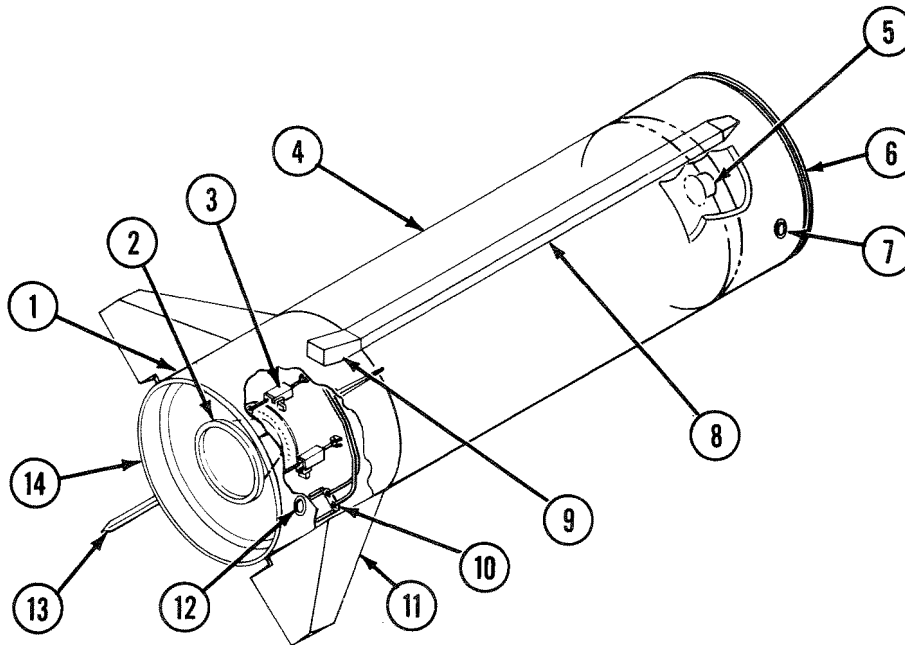

Figure 2-7. First Stage Major Features
a. *First Stage.* The two main assemblies of the first stage are the aft skirt assembly and rocket motor assembly. Figure 2-7 shows first stage major features.